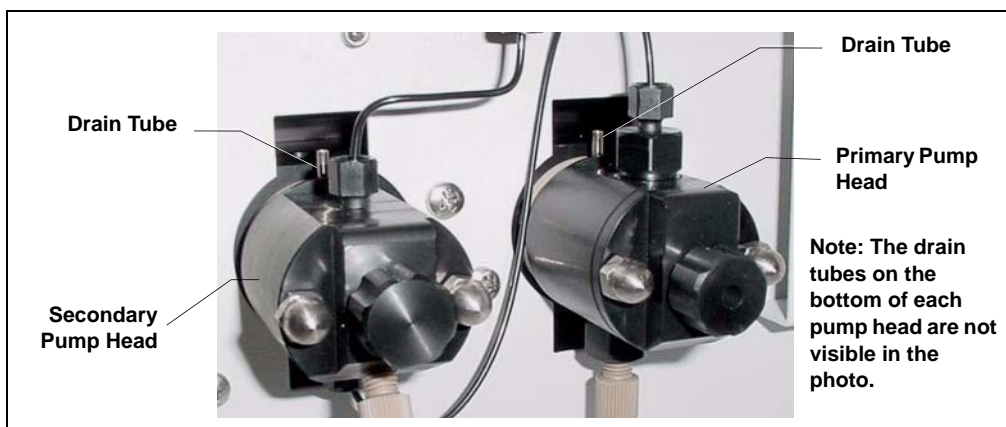
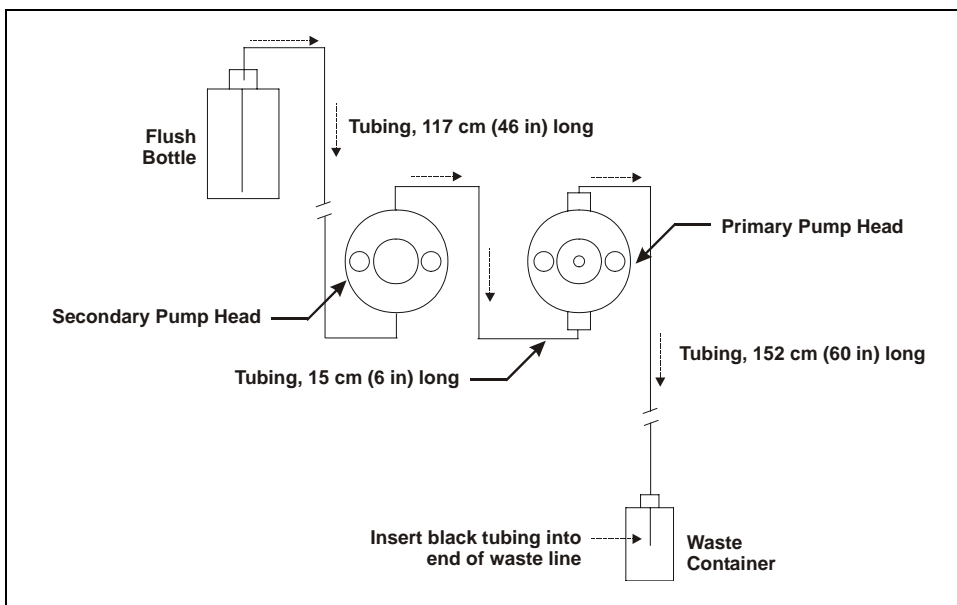

Figure B-47. Primary and Secondary Pump Heads with Drain Tubes
Figure B-48. Piston Seal Wash Flow Schematic
4. Install the tubing as follows (see Figure B-47 and Figure B-48):